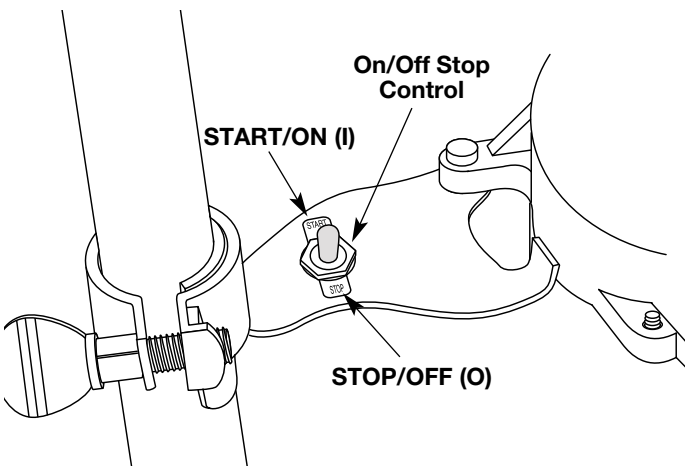
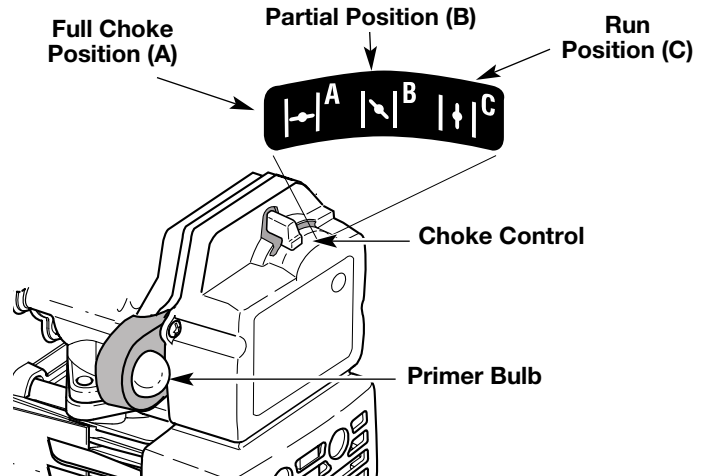

Fig. 14
Fig. 15
2. Put the On/Off Stop Control in the START (I) position (Fig. 14).
3. Fully press and release primer bulb slowly 5 to 7 times. Fuel should be visible in the bulb (Fig. 15). If fuel is not visible, press three (3) more times, or until it is.
4. Place the choke lever in the FULL choke position (A |←|) (Fig. 15).
6. Place the choke lever in the PARTIAL choke position (B |↘|) (Fig. 15).
NOTE: If the engine floods while trying to start, place the choke lever in the RUN position (C |↑|) (Fig. 15). Squeeze the throttle control. Pull the starter rope briskly. The engine should start within three (3) to eight (8) pulls.
9. Squeeze the throttle control to warm up engine for 5 to 10 seconds. Place the choke lever in the RUN position (C |↑|) (Fig. 15).
NOTE: Choking is unnecessary when starting a warm engine. Put the On/Off Stop Control in the START (I) position (Fig. 14), and start in PARTIAL Choke position (B |↘|) (Fig. 15).
2. Put the On/Off Stop Control in the STOP (O) position (Fig. 14).